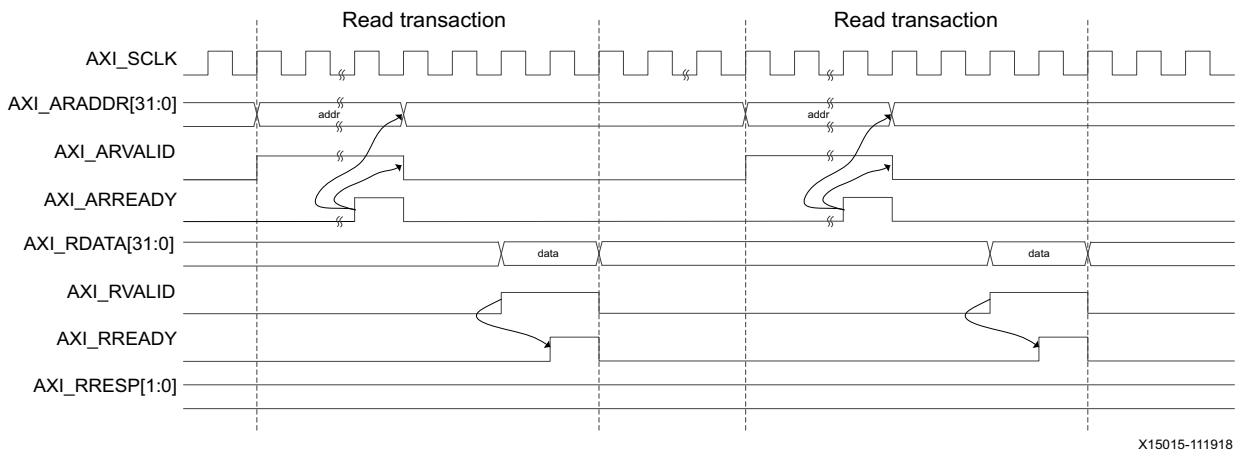

Figure 5-18: AXI4-Lite User Side Valid Read Transaction
- Valid Read transactions (Figure 5-18)